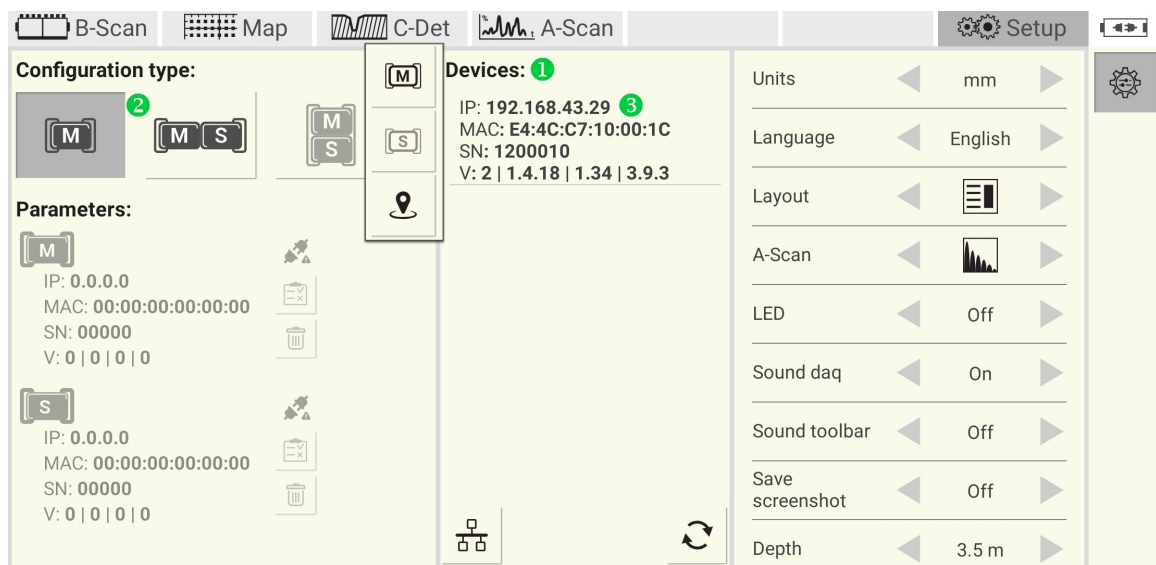

Figure 20: A1040 MIRA 3D configuration
After the scan finishes, the `device list` ① shows all available devices. Select <% INSTRUMENT%>-configuration ② and tap on a device item ③ to assign it as a master , Figure 20.